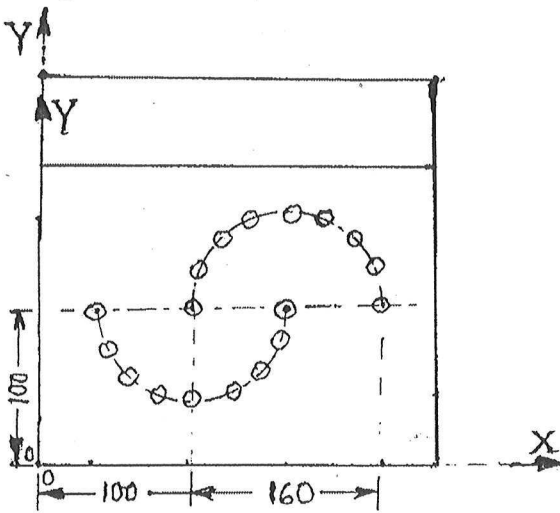

Fig. 3
11. Write an APT program for drilling holes (depth 5 mm) in a job shown in fig.3 using a CNC drilling machine. 10